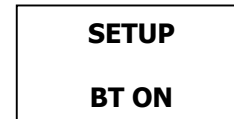

Figure 5.2-2: Setup Screen With Bluetooth Enabled
1. Turn on Bluetooth on the Smart Socket. To do this, press one of the arrow keys until the screen reads "BT OFF" (Figure 5.2.2-1). This is the current state of the
Bluetooth. Press the centre button. When Bluetooth is turned on, the screen will read **"BT ON"** (Figure 5.2.2-2).
3. Select **"Scan All Active Transducers"** from the bottom of the screen (Figure 5.2.2-3). The Smart Socket should now be connected to the PC. Proceed with configuration or data download as detailed further in this section.